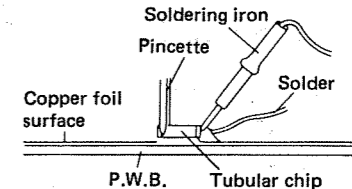

Figure 23-4
- Holding one end of the chip with a pincette, completely solder both terminals of it one after another. See Fig. 23-4.
- When touching the chip with a pincette, hold its terminal but never its body. See Fig. 23-4.